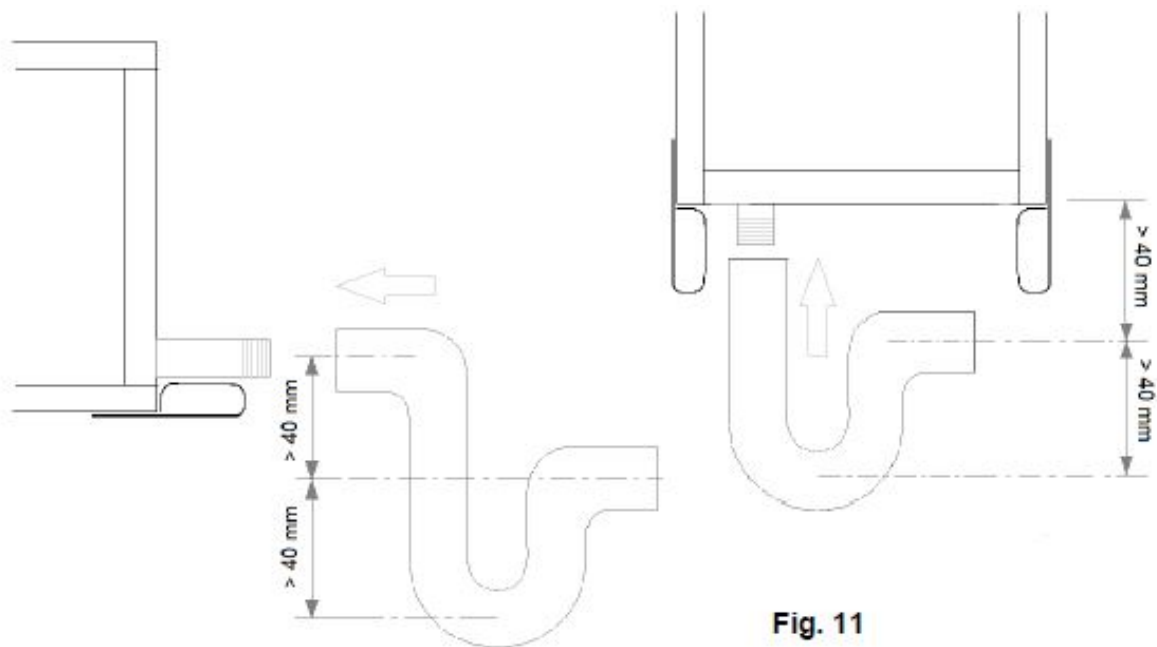

Fig. 11
- The drain trap shall be done as shown on fig. 11.